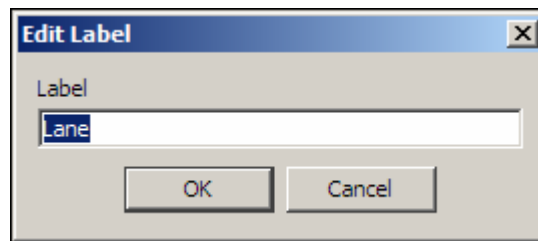

Figure 7.26: Edit Label
2. The Edit Label screen is displayed (see Figure 7.26).